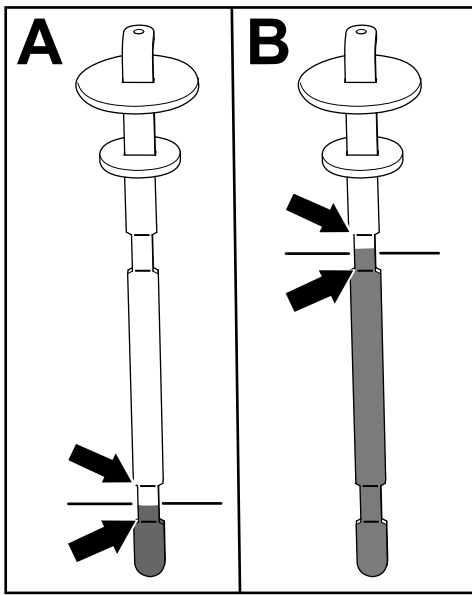

Figure 80
5. Remove the dipstick and check the fluid level (Figure 80).
- **If you have a cutting unit equipped:** The hydraulic-fluid level is at the appropriate level when the fluid appears between the lower 2 marks on the dipstick (A in Figure 80). It is also acceptable for the fluid level to be above the lower marks.
- **If you have the auxiliary hydraulic kit equipped:** The hydraulic-fluid level is at the appropriate level when the fluid appears between the upper 2 marks on the dipstick (B in Figure 80).